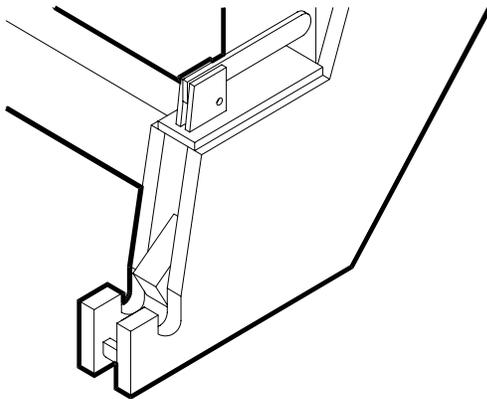

Figure 2-4
8. Position quick-hitch handle to locking position as shown in Figure 2-4. This will allow drill hitch pins to snap into quick-hitch links and secure drill to hitch.